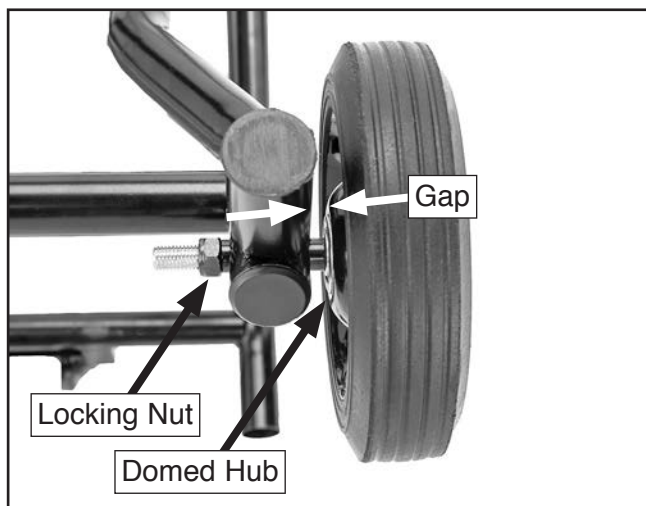

Figure 9. Wheel installed with gap.
5. Locate (2) wheels, (2) M12-1.75 x 120 hex bolts, and (2) 12mm lock nuts.
7. Install wheel and bolt onto stand, so there is a gap between frame and wheel, as shown in **Figure 9**. Do not over-tighten locking nut or wheel will bind.